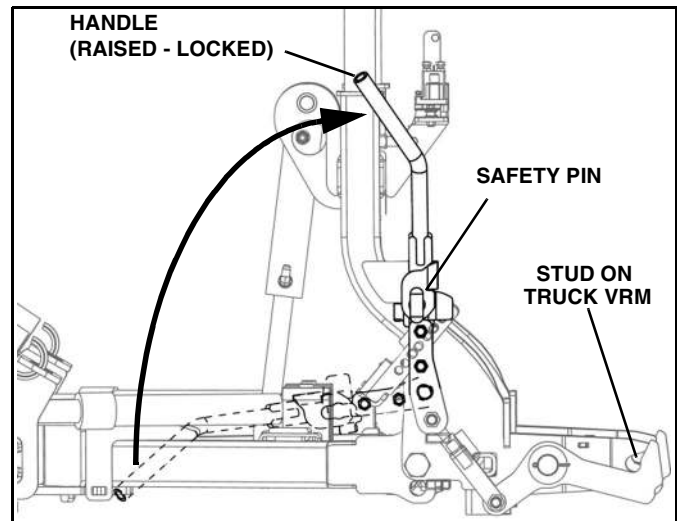

Figure 1-24
3. Pull up engagement handle to engage plow onto stud on VRM, ensuring that the safety pin is fully engaged. (See Figure 1-24).